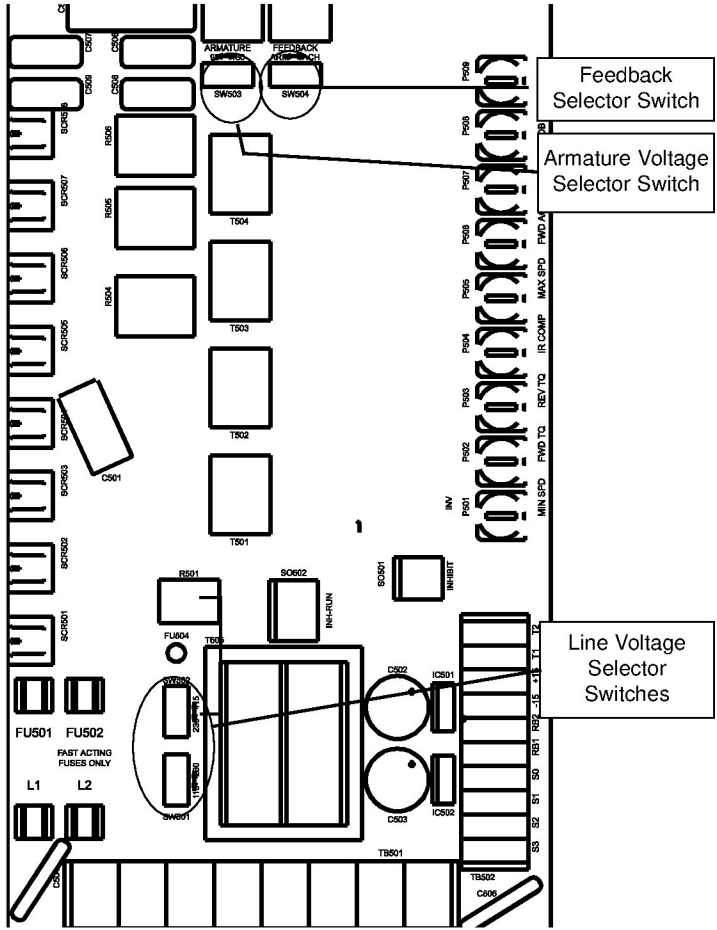

Figure 10. Selector Switch Locations
3. Verify that all selector switches are set correctly (see the following section for selector switch settings). See Figure 10 for all switch locations.